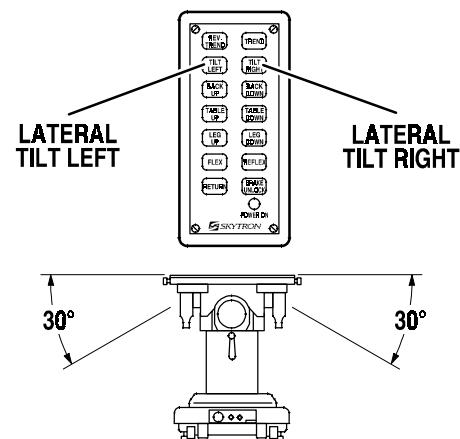

Figure 3-6. Lateral Tilt Positioning
**d. Lateral Tilt.** To achieve lateral tilt right (as viewed from the head end of the table), press the TILT RIGHT button (figure 3-6). Tilt of up to 30° may be obtained. To achieve lateral tilt left, press the TILT LEFT button. Tilt of up to 30° may be obtained.